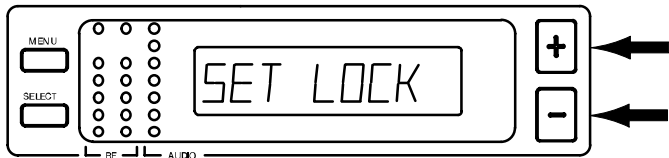

FIGURE 30
2. Press either the + or - button to reach the "SET LOCK" display, as shown in Figure 30.